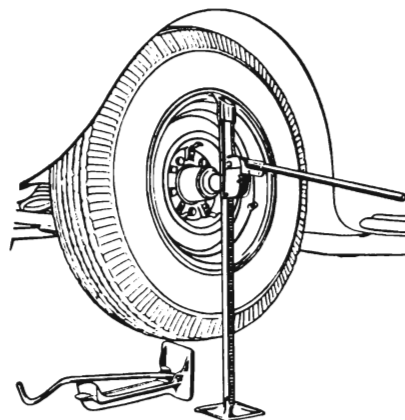

Fig. 10-2
- 3. With left hand, slide stand in back of center of wheel. In this position, handle should touch left side of jack. Pull stand toward wheel until guide strikes brake backing plate as shown in Fig. 10-2.